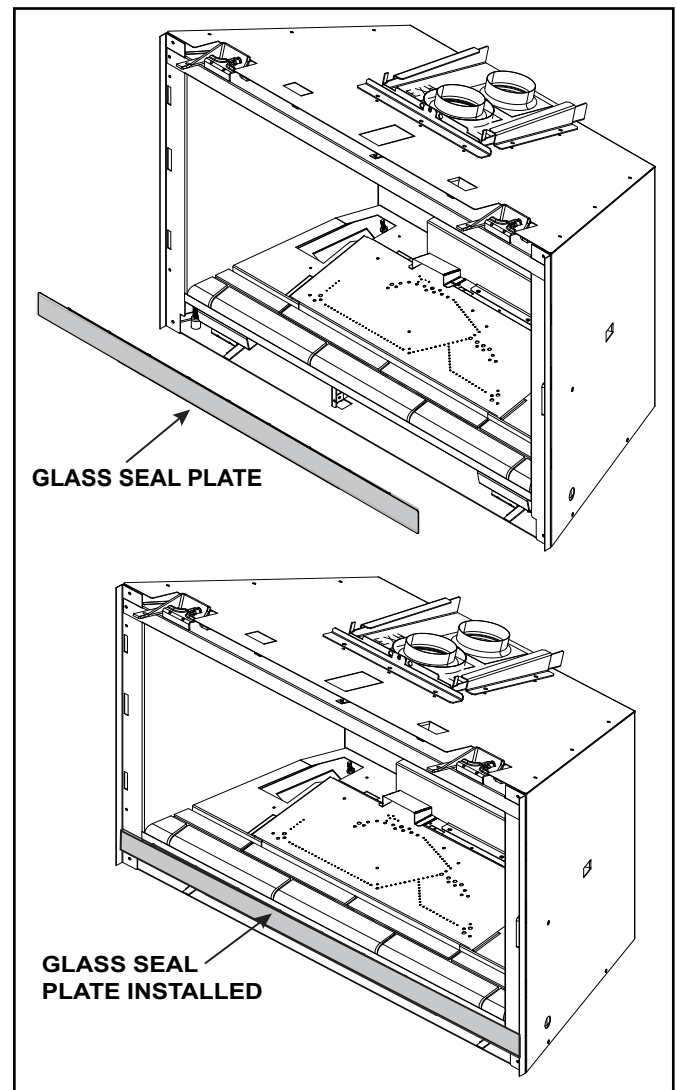

Figure 3.4 Glass Seal Plate
- Verify Glass Seal Plate is properly installed. See Figure 3.4.